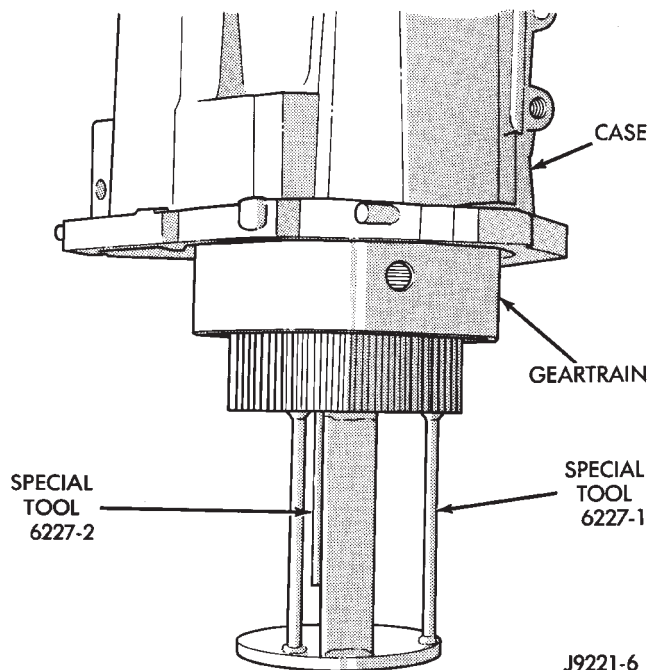

Fig. 66 Installing Overdrive Case On Geartrain
(18) Support geartrain on Tool 6227-1 (Fig. 66). Be sure tool is securely seated in clutch hub.
(19) Install overdrive unit case over geartrain (Fig. 66).
(20) Expand front bearing locating ring with snap ring pliers. Then slide case downward until locating ring locks in bearing groove and release snap ring.